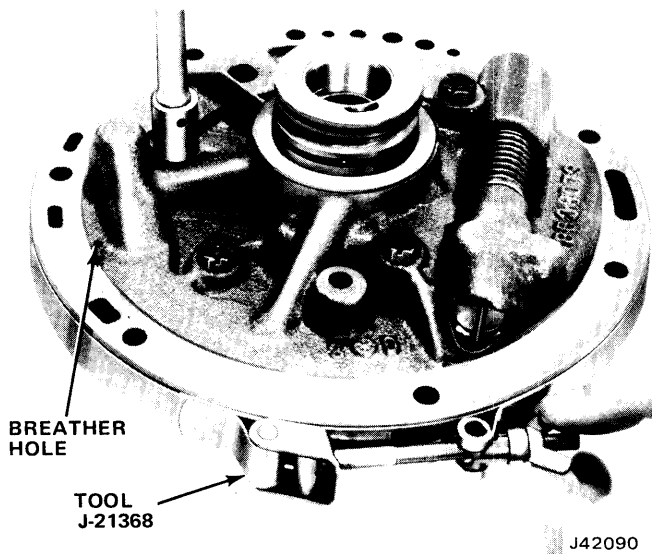

Fig. 7-66 Alignment of Oil Pump Cover to Body
(10) Install pump cover on pump body and install attaching bolts.
(11) Place pump Aligning Strap J-21368 over assembled pump body and cover and tighten strap (fig. 7-66).
(12) Tighten pump cover bolts to 15 to 20 foot-pounds torque.
(13) Remove Aligning Strap J-21368 and install pump-to-transmission case O-ring oil seal in pump.